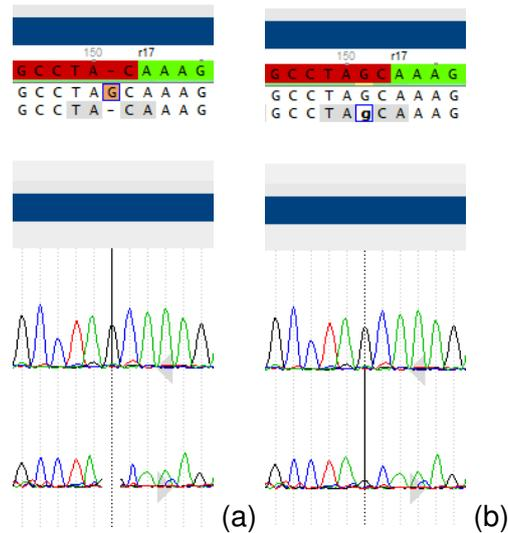

Figure 8: Missing peak in the chromatogram (a), Editing the trace sequence (b).
9. Place the cursor on the gap in the trace sequence and type "G". The consensus sequence is automatically updated (see Figure 8 (b)).